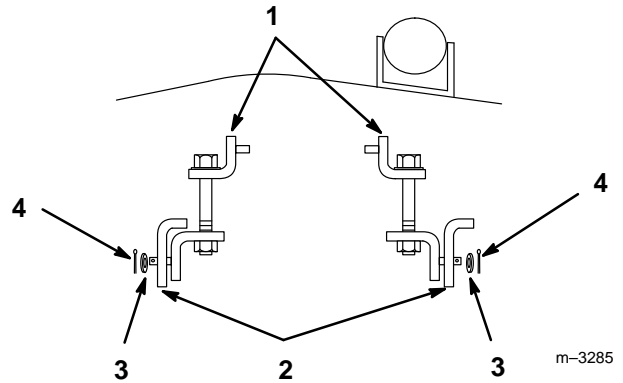

Figure 3
5. Rotate adjustable links so bolt heads are up and place between brackets, as shown, on front of the mower (Fig. 3).
6. Secure to brackets with 1/2" washers and 1" (26 mm) cotter pins (Fig. 3).